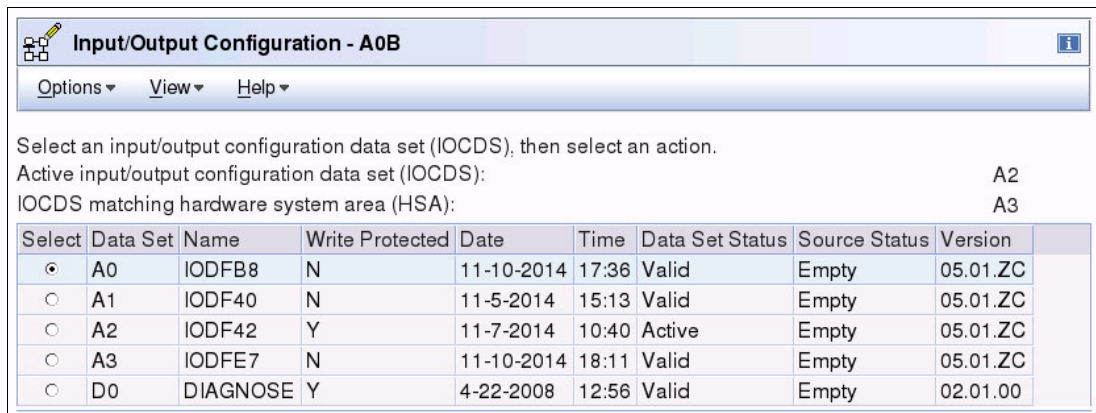

Figure 6-129 HMC - SAI0CP: IOCDs selection for import
- Select the data set into which you want to import the IOCDs (in this example, A0) as shown in Figure 6-129.